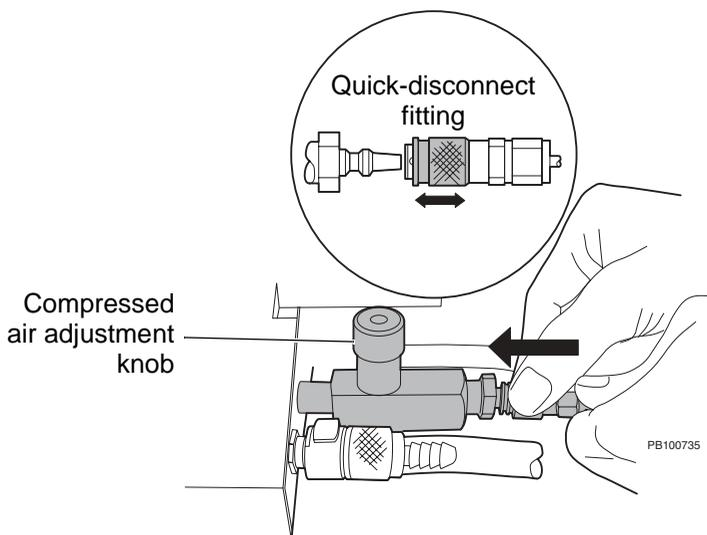

Figure 2-7 Connecting the Compressed Air to the Spray Chamber
2. Connect the air inlet tubing to the spray chamber by pulling back on the quick-disconnect fitting, inserting the fitting into the compressed air port on the bottom right corner of the spray chamber, and releasing the connector (Figure 2-7).
Adjusting After you start solvent flow, turn the compressed air adjustment knob (Figure 2-7) one to one and a half turns until you hear the flow. This generates 15 liters/min of flow.
7. Disconnect the compressed air by pulling back on the fitting and removing the tubing. See Figure 2-7 on page 16.